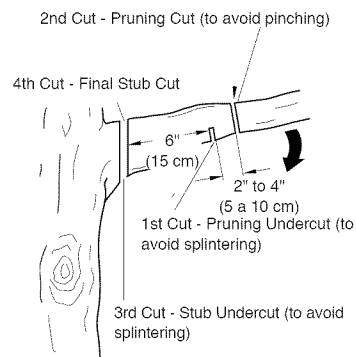

Figure 11 - Cutting A Limb
1. Make first cut six inches from tree trunk on underside of limb. Use top of guide bar to make this cut. Cut 1/3 through diameter of limb (see Figure 11).